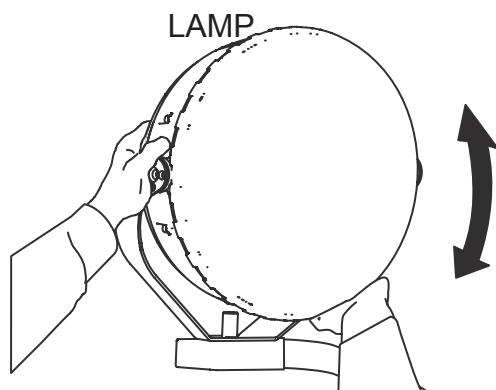

Figure 13. Tilting a Lamp
2. To tilt the lamp to a desired angle, hold the individual lamp and tilt (Figure 13).